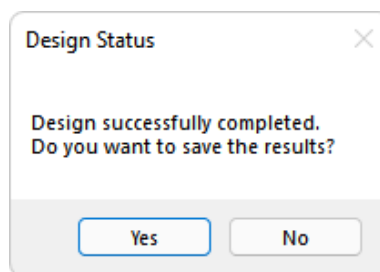

FIGURE 10-19
- Click on *Floor Design* → *Section Design* and click on the **Design the Sections**  icon. The program will start to perform the design of the sections. When completed you should see a window as shown in **FIGURE 10-19**.